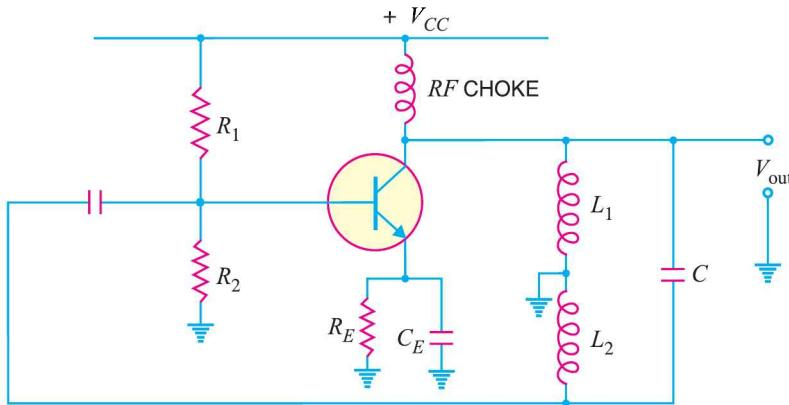

Fig. 14.25
2. Figure 14.25 shows the Hartley oscillator. If $L_1 = 1000 \mu\text{H}$, $L_2 = 100 \mu\text{H}$ and $C = 20 \text{ pF}$, find the (i) operating frequency and (ii) feedback fraction.
4. For the Hartley oscillator shown in Fig. 14.25, $C = 250 \text{ pF}$, $L_1 = 1.5 \text{ mH}$, $L_2 = 1.5 \text{ mH}$ and $M = 0.58 \text{ mH}$. Determine the operating frequency. [159.2 kHz]